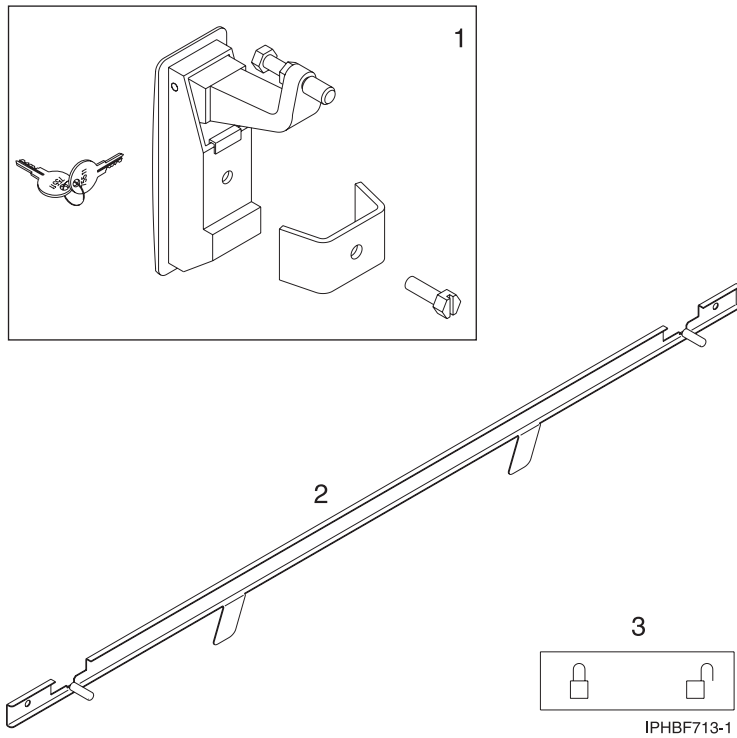

Figure 51. Rack security kit inventory
**Note:** Refer to the Standard latch figure 51 for steps 5a through 5d and the Ruggedized latch figure 50 for steps 5e through 5i.
- a. Remove the end cap (1) from the new latch and discard.
- b. Loosen the hex nut (3).
- c. Remove the screw (2) from the new latch.
- d. Remove the nut (3) from the screw.
- e. Insert the screw (4) into the new latch in the reverse orientation.
- f. Screw the hex nut (3) onto the screw (4).
- g. Screw the hex nut (2) onto the screw (4).
- h. Screw the jam nut (1) onto the screw (4). The jam nut (1) must be flush with the end of the screw (4).
- i. Tighten the hex nut (2) against the jam nut (1).